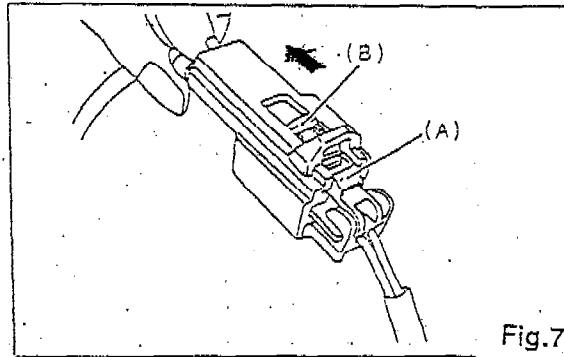

Fig.7
- (1) Push lock arm (A)(Fig.7).
- (2) With lock arm (A) pushed in, move slide lock (B) in the direction of the arrow(Fig.7).